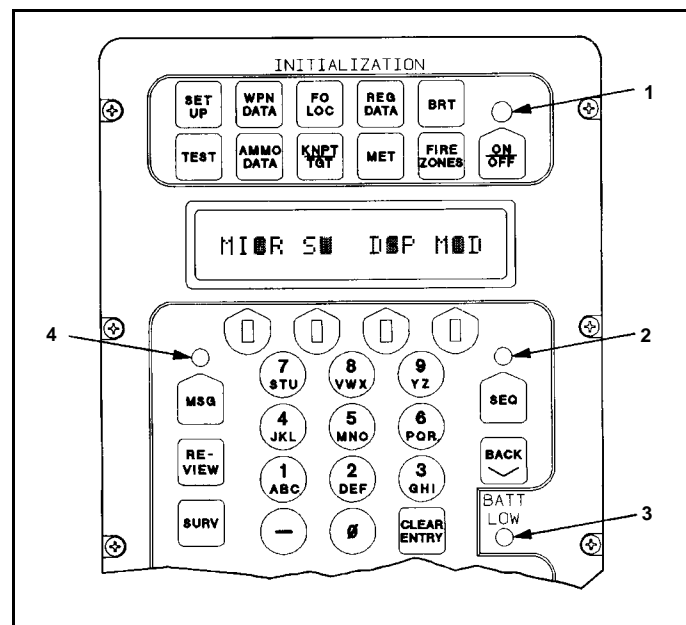

Figure 6-8. LED indicators.
g. **LED Indicators** (Figure 6-8). LED indicators include the following: